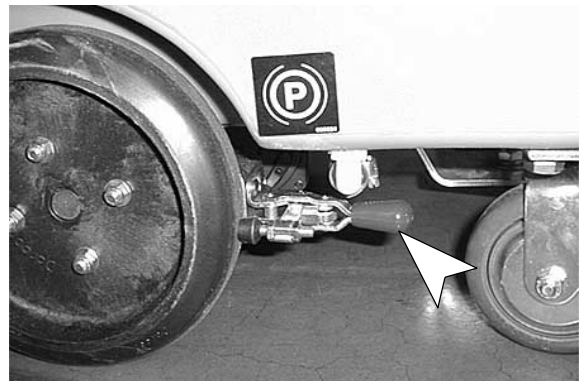

FIG. 18
5. Set parking brake if equipped (*Figure 18*).